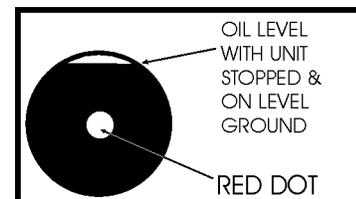

FIGURE 20
- Check the crankcase oil level **daily** to assure the proper level. Use Figure 20 as a guide when checking the oil level. If the level has dropped, check for the source of leakage and repair.